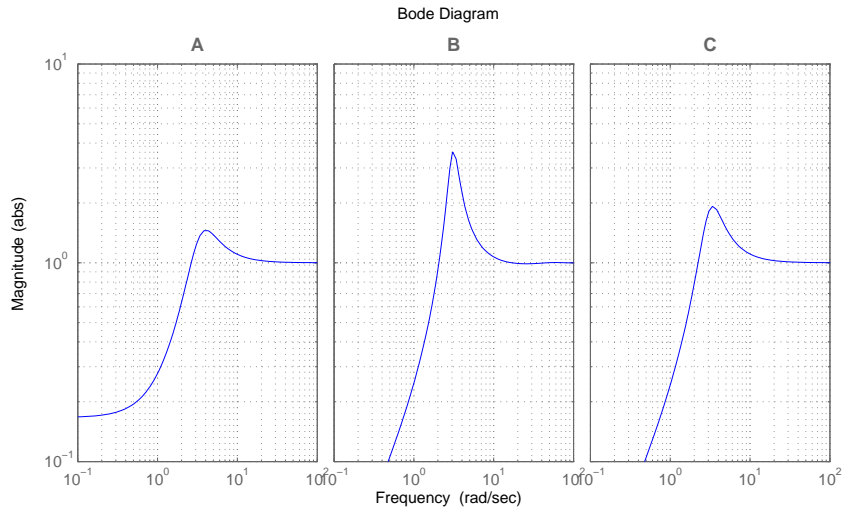

Figure 2.5 Sensitivity functions for Problem 2.5.
- a. Figure 2.5 shows sensitivity functions, corresponding to the three different control designs $C_1 - C_3$. Combine the controllers $C_1 - C_3$ with the sensitivity functions $A - C$.